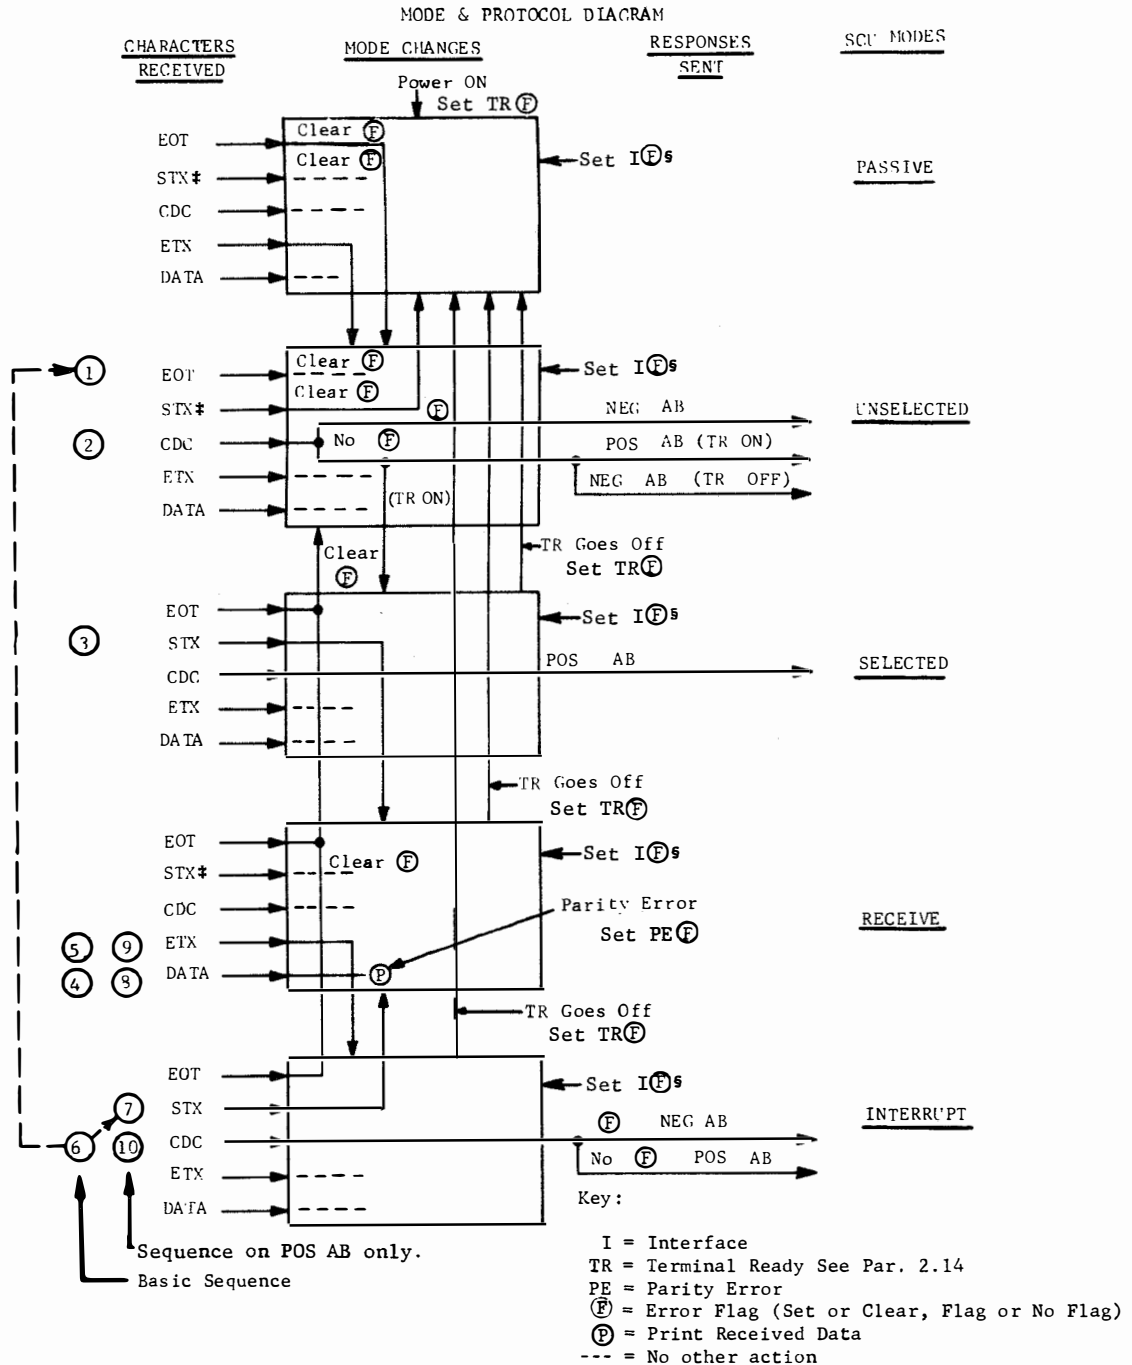

Fig. 3—Selective Calling Modes
2.06 See Fig. 3 for selective calling modes.
2.14 The following is a description of internal lead status between the 43 teleprinter and the SCU. An understanding of these conditions is necessary to fully define the selective calling modes shown in Fig. 3. (See Fig. 7.)